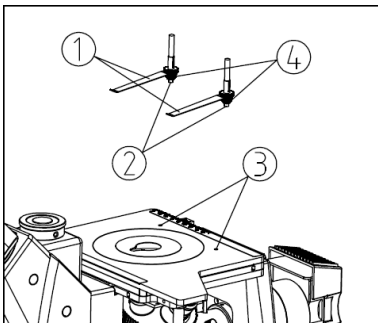

Fig.6
- (1) Take out clips ① from pole ②. (Fig. 6)
- (2) Screw pole ② into hole ③ on mechanical stage, then lock by screw nut ④.
- (3) Set the clips ① into pole ② and make it direct to center of stage.